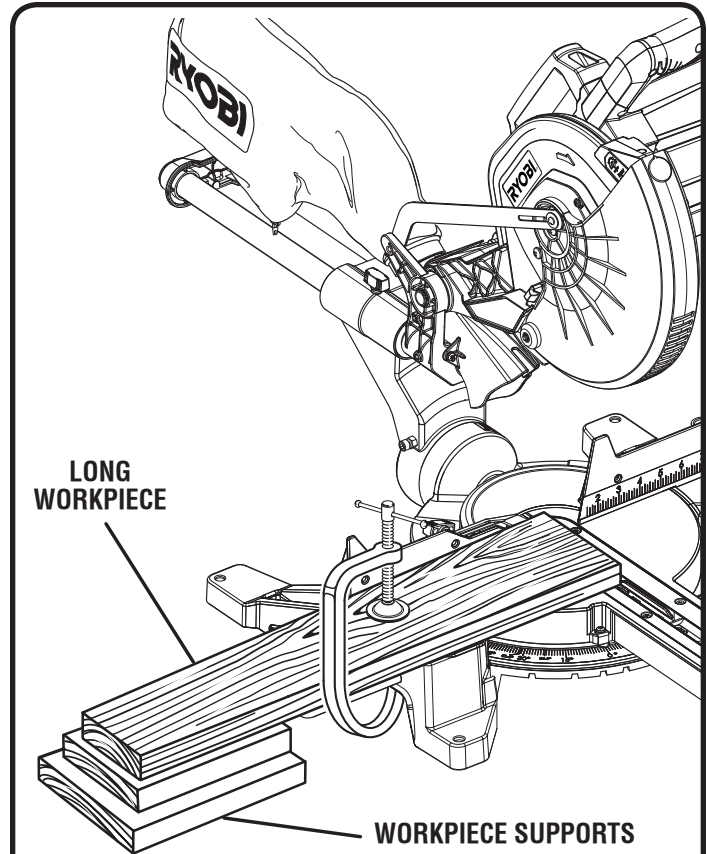

Fig. 33
- When cutting long pieces of lumber or molding, support the opposite end of the stock with a roller stand or with a work surface level with the saw table. *See Figure 33.*
- When cutting long pieces of lumber or molding, support the opposite end of the stock with a roller stand or with a work surface level with the saw table. See Figure 33.
See Figure 33.